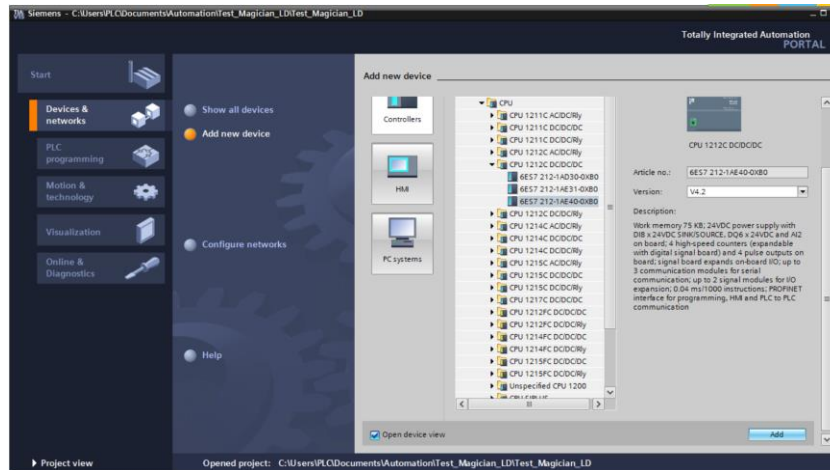

Figure 1.7 Add equipment
- Click **show all devices** on the **Devices&networks** page to check the hardware configuration after importing the demo. If the displayed equipment is not matched with your PLC, please select **Add new device** to add your PLC, as shown in Figure 1.7